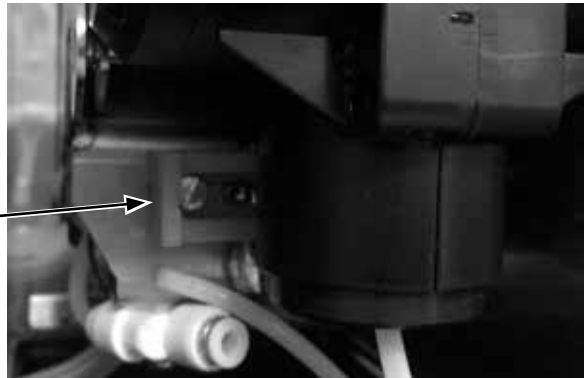

Figure 5
7. Slide red lock to the right until it snaps into place as shown in Figure 5.